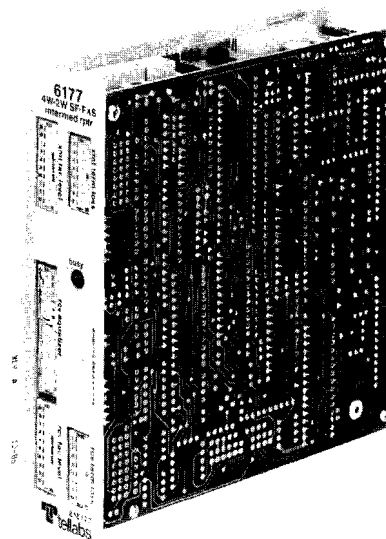

figure 1. 6177 4Wire-to-2Wire SF-to-FXS
1.01 The 6177 4Wire-to-2Wire SF-to-FXS Intermediate Repeater module (figure 1) provides both active transmission interface and bidirectional signaling conversion between a 4wire facility that uses 2600Hz single-frequency (SF) signaling and a 2wire metallic link (station loop or PBX trunk) that uses foreign-exchange station-end (FXS) loop signaling. This type of loop signaling is normally associated with the station end of both foreign-exchange (FX) and off-premises-station (OPS) circuits. The 6177 is designed in accordance with the specifications given in AT&T Technical Reference Pub 43001: Functional Criteria for Voice-Frequency Terminating Equipment/Metallic Facilities/Central Office.